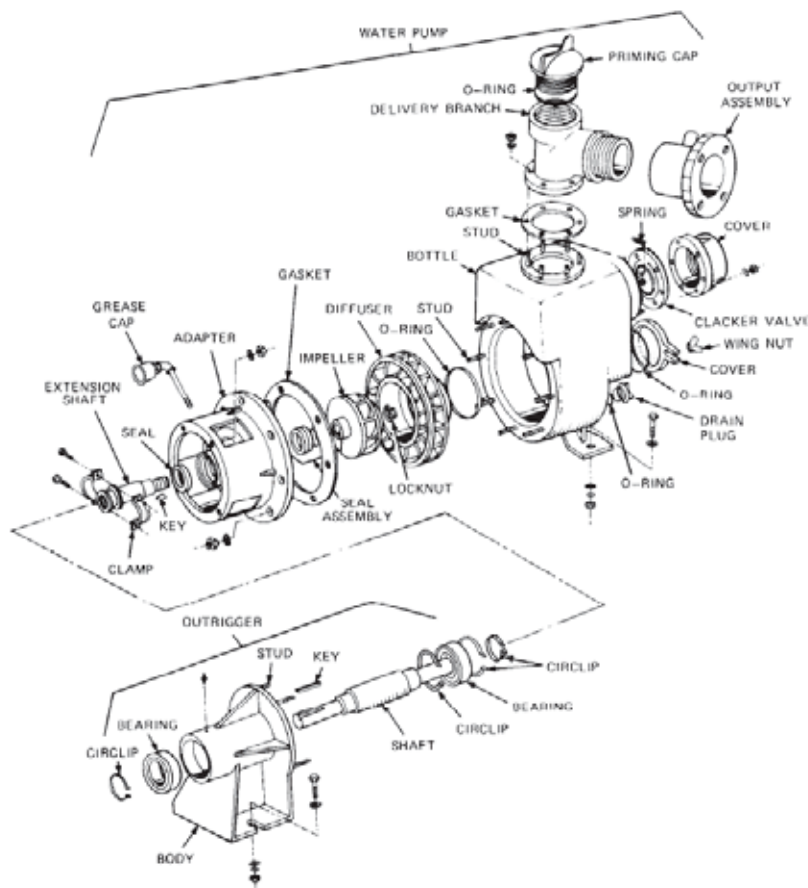

Figure 11 Water Pump and Outrigger Assembly – Exploded View
37. The water pump is a self priming, centrifugal type pump, which is fitted with an outrigger assembly to connect the Fenner coupling to the water pump drive shaft. Figure 11 illustrates both the outrigger assembly and the water pump. In the event of the outlet valve being closed while the water pump is still operating, the pump is protected against excessive internal pressure by a pressure relief line connected from the water pump outlet to the centre tank compartment.